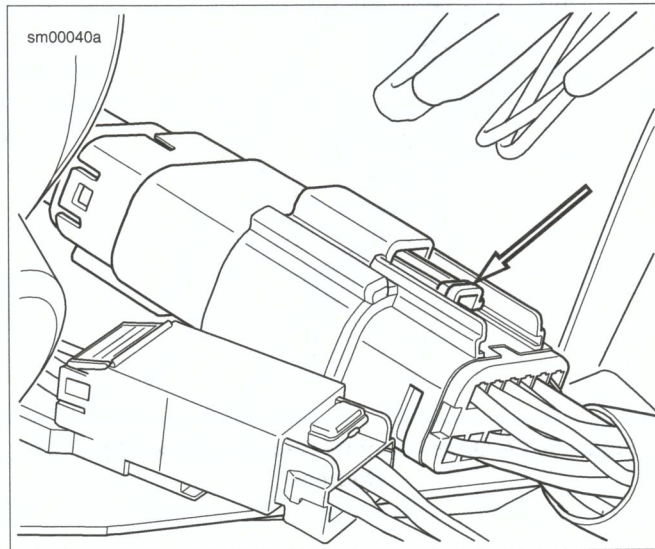

Figure A-12. Molex MX 150 Sealed Connector: Latch
1. See Figure A-12. Press the latch.